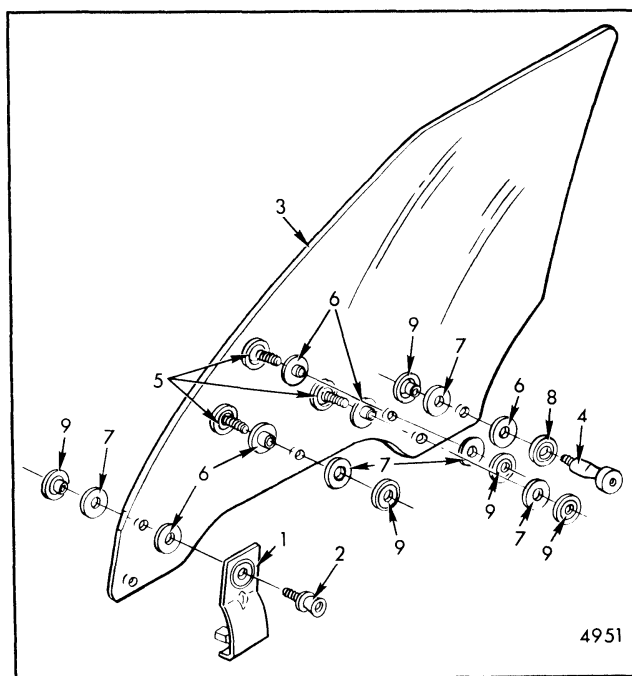

Fig. 5-77-Front Door Window Assembly - "A-29,35" Styles
Figure 5-77 is an exploded view of the front door window assembly and identifies the various components and their assembly sequence.
**NOTE:** When installing glass attachments, torque nuts to 72 inch pounds (6 foot pounds). Also, when replacing door glass, replace glass spacers and washers ("6" and "7", Fig. 5-77).